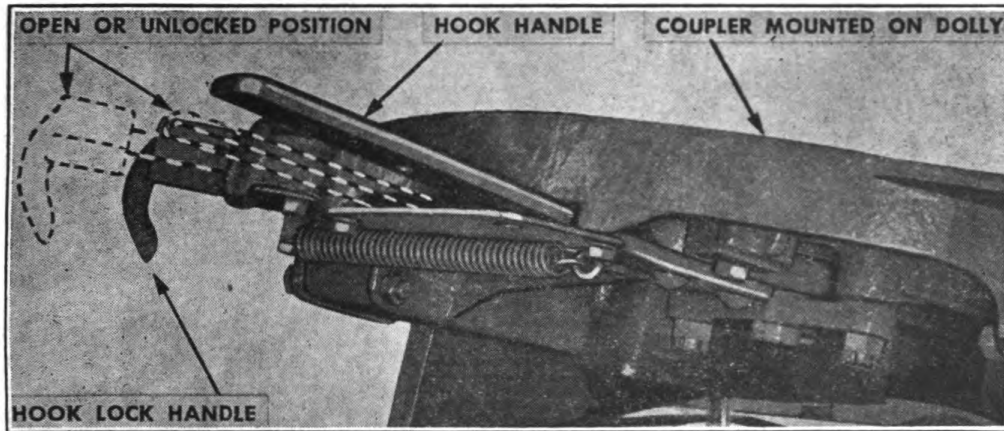

FIGURE 6. CONTROLS—DOLLY COUPLER.
c. *Coupler hook lock handle* (Fig. 6).—Coupler is mounted on dolly. The coupler hook lock handle is on the right side of the coupler. Pull out on this handle to unlock the coupler hook which permits dolly to become uncoupled from semi-trailer. The unlocked hook automatically becomes locked when the dolly is backed under the trailer.